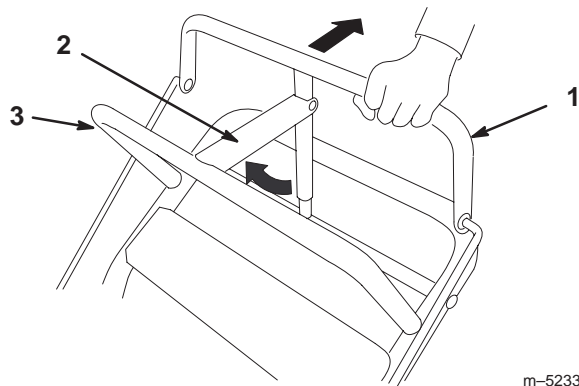

Figure 15
1. Pull the upper control bar (Fig. 15) rearward and hold it in this position.
2. Lift the parking brake lock (Fig. 15) up and gradually release the upper control bar. The brake lock should stay in the set (locked) position.
1. Pull rearward on the upper control bar (Fig. 15). Lower the parking brake lock to the released position.